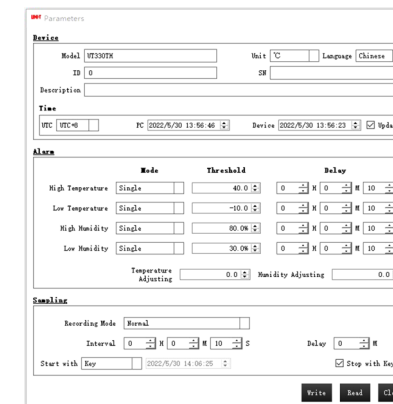

Figure 3 (Setting Interface of the PC Software)
- Insert the logger into USB port of PC, the main interface of logger will display "USB". After the computer identifies the USB, open the software to set parameters and analyze the data. (Figure 3).